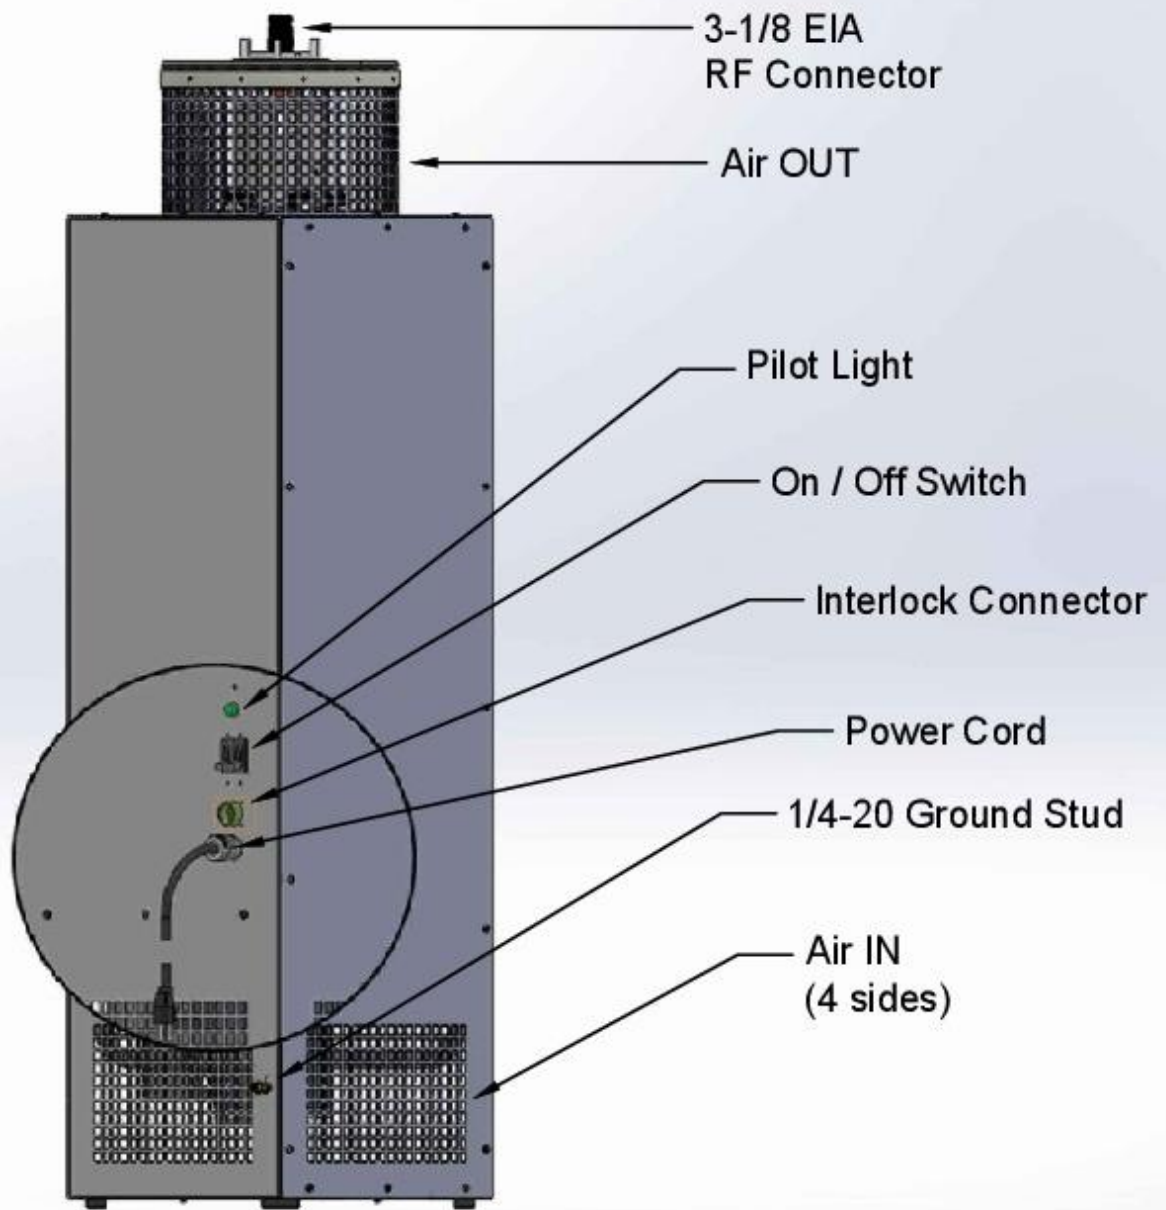

Figure 1. Component Location
3. Use the unit grounding stud to provide a secure electrical ground separate from the AC power cord. See Figure 1.